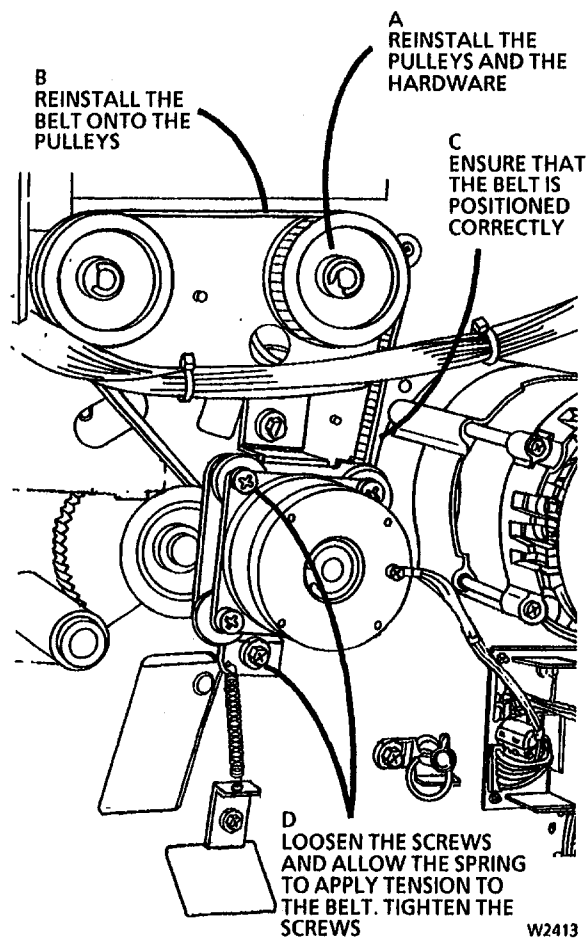

Figure 4. Reinstalling the Belt
2. (Figure 4): Reinstall the belt.